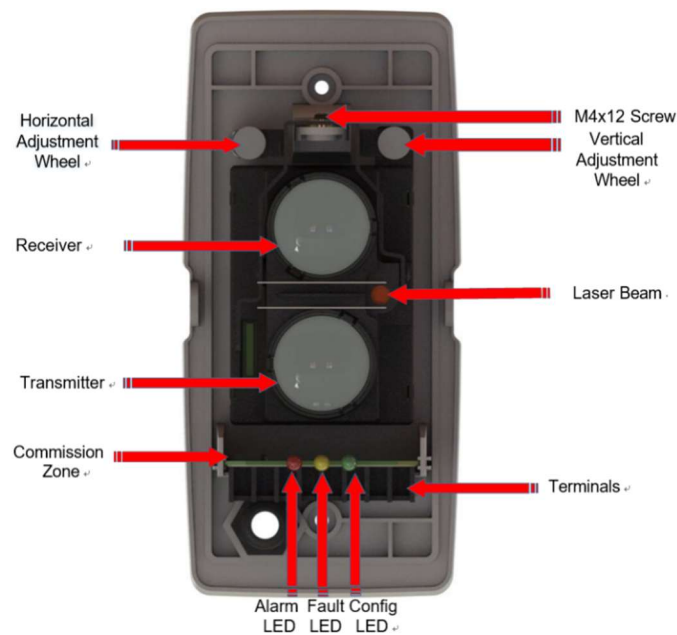

Fig. 1
1. Internal devices of the detector and positions to be glued are shown in Fig. 1.